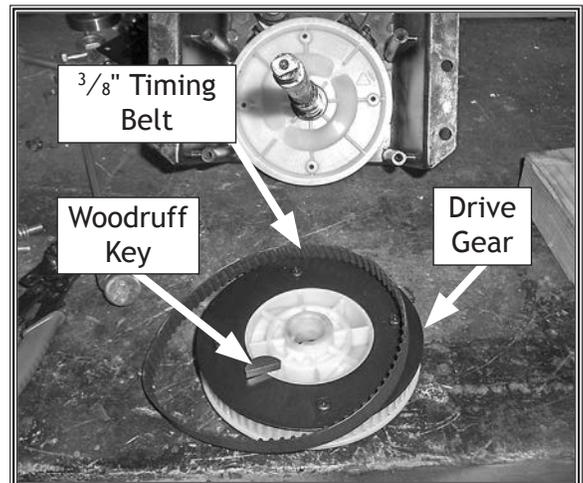

Figure 22. Timing belt and drive gear removed from spindle.
11. Remove $\frac{3}{8}$ " timing belt (#13) and drive gear (#54) assembly (see **Figure 22**) from spindle (#55), and put Woodruff key (#56) in safe place for re-assembly.